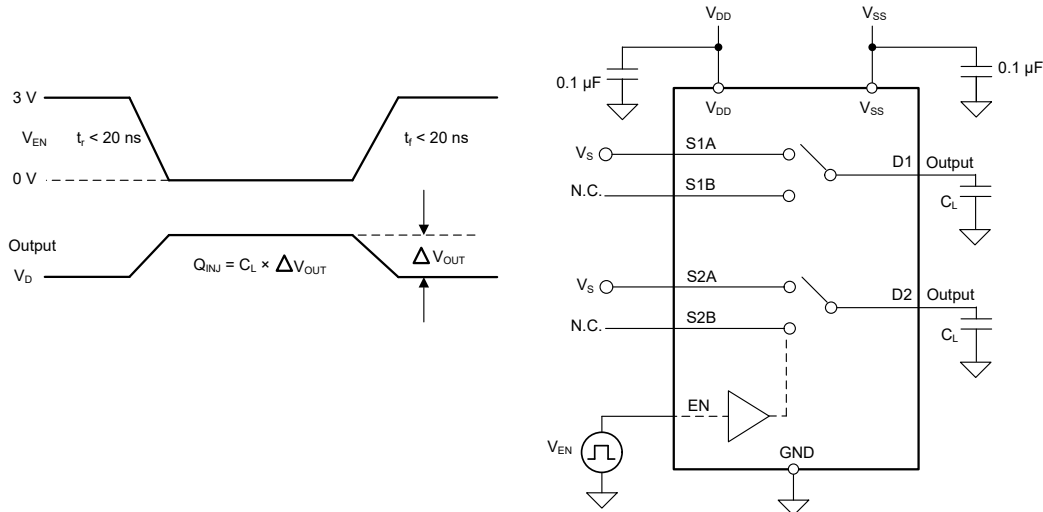

Figure 6-9. Charge-Injection Measurement Setup
The TMUX6236 has a transmission-gate topology. Any mismatch in capacitance between the NMOS and PMOS transistors results in a charge injected into the drain or source during the falling or rising edge of the gate signal. The amount of charge injected into the source or drain of the device is known as charge injection, and is denoted by the symbol Q_{INJ} . Figure 6-9 shows the setup used to measure charge injection from source (Sx) to drain (D).